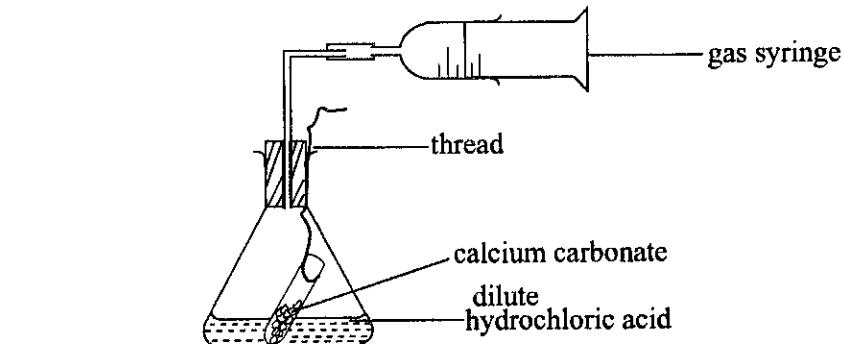

Fig. 11.11
5. The figure 11.11 shows the set up of the experiment used to study the rate of evolution of a gas when 1.0g of powdered calcium carbonate was reacted with 50cm^3 of 2 M hydrochloric acid at 25°C .